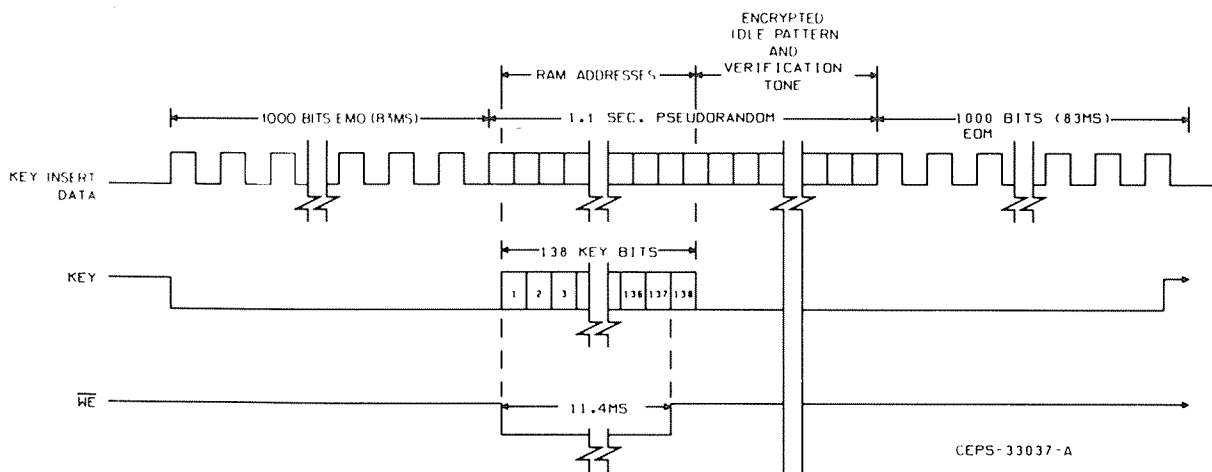

Figure 4. Signaling Scheme for Transfer of Data
3.3.4.2 The signaling scheme for transfer of data to an external radio is shown in Figure 4. When the push-to transfer switch (S301) is depressed, a half clock rate signal (EOM) appears on the KEY INSERT DATA line for 1000 bit clocks. This ensures clock sync in the radio. After 1000 bits, the  $\overline{WE}$  line goes logic low for 137 cycles during which key bits are loaded into the encrypt module of the radio. KEY INSERT DATA provides addresses for the key bits. After the  $\overline{WE}$  returns to a logic high, 600 cycles of encrypted idle pattern followed by 12000 cycles of verification tone are sent; then 1000 bits of END OF MESSAGE (EOM) are sent to squelch the radio. When the inserter is not executing a load sequence, the KEY,  $\overline{WE}$ , and KEY INSERT DATA lines are in a high impedance state.